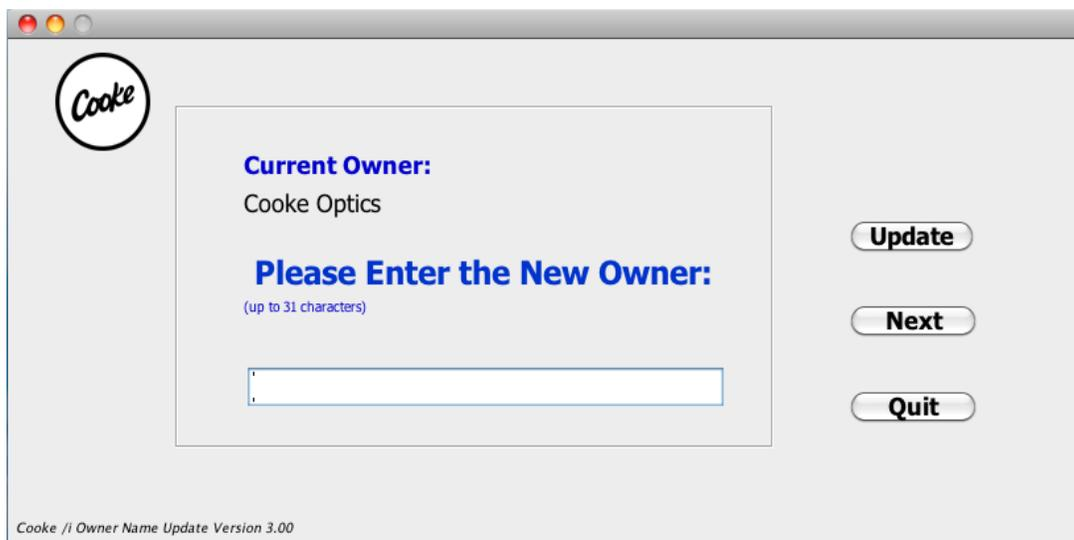

Figure 2 Enter the New Owner
- Click the Connect button, the second screen as shown in Figure 2 appears. The current owner is displayed.